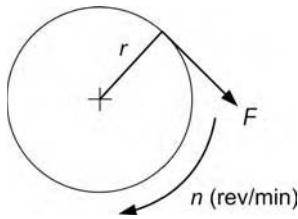

Figure 4.61 Power transmitted by a torque.
Let us now consider power transmitted by a torque. You have already met the concept of torque. Figure 4.61 shows a force F (N) applied at radius r (m) from the center of a shaft that rotates at n (rpm).